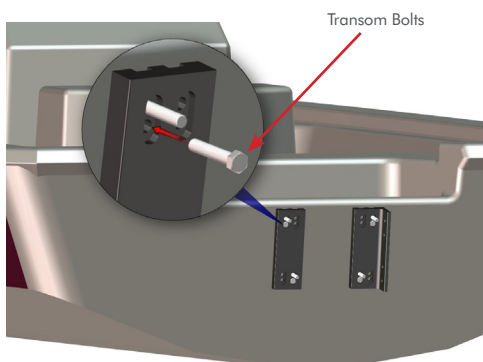

Figure 5
STEP 5: Install the M to S adapter plate (**C**) and shim (**B**) onto the boat transom/jack plate and tighten to your boat manufacturer's torque specifications (**FIG. 5 or 6**).